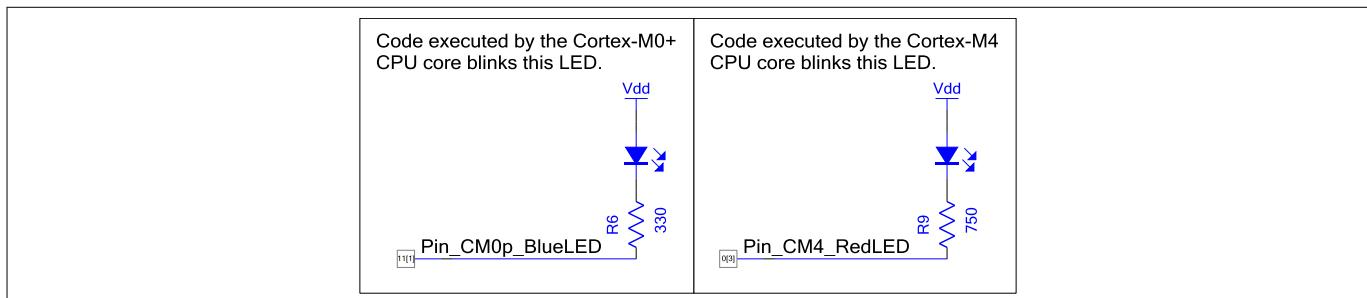

Figure 410 PSoC™ Creator project schematic for dual CPUs controlling separate pin components
- **Dedicate a resource to one CPU.** Include code to use the resource only in the firmware for the desired CPU. Also, if you are using PSoC™ Creator, a good practice is to indicate on the project schematic the CPU that “owns” the resource, as Figure 410 shows